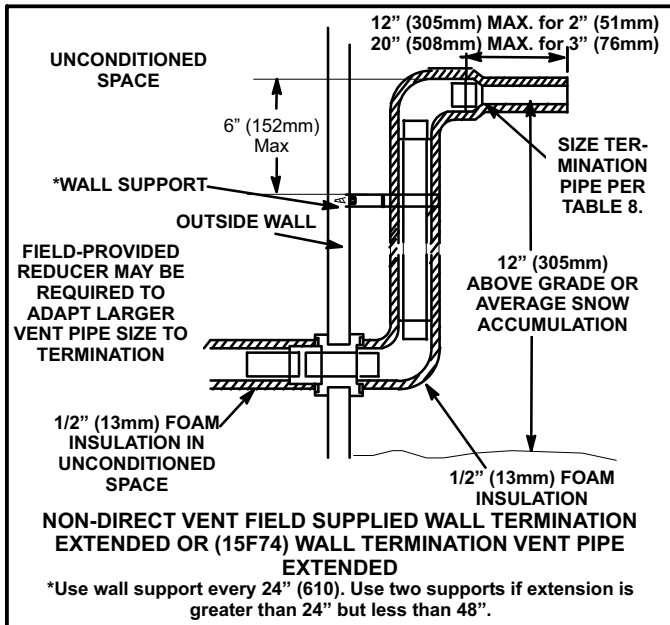

FIGURE 46
- 3 - If exhaust piping must be run up a side wall to position above snow accumulation or other obstructions, piping must be supported every 24 inches (610mm) as shown in figure 46. When exhaust piping must be run up an outside wall, any reduction in exhaust pipe size must be done after the final elbow.